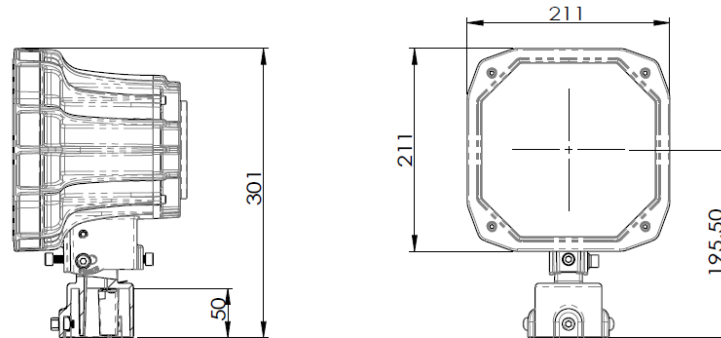

Figure 2.2 Dimension of Elevated Flash Light
2. For the elevated flash light head, overall height of the light head is 301mm (excluding the height of the extension pole) and the center height is 195.5mm; the dimension of the head is 211mm \* 211 mm. See Figure 2.2; a set of flash light system consists of several flash light heads. (The number of the flash light heads can be adjusted according to the user's requirements and the standard number configurations are 21 and 30 units and the number of the lighting fixtures can be adjusted within the range of 1~30 according to the user's requirements.)
The boundary dimension of the flash lamp head is shown in Figure 2.2. The lighting fixture housing is made of the aluminum alloy material and the lighting fixture is light and firm. All fasteners are made of the stainless steel material. User can adjust the angle elevation of the lamp head according to the field requirements, with the adjustable range of 0 °~13 °.